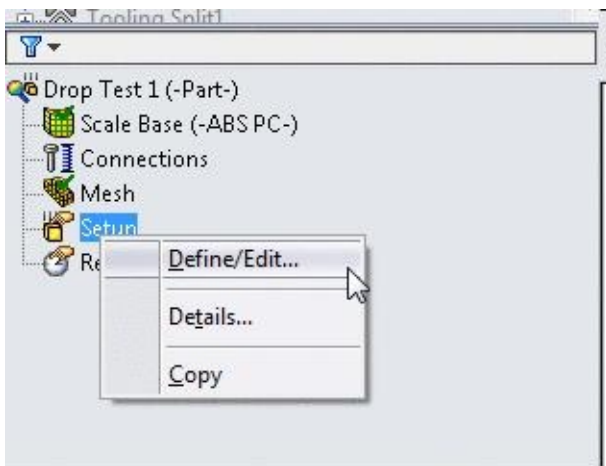

Figure-7. Setup shortcut menu
- Right-click on the **Setup** node from the **Analysis Manager**. A shortcut menu will be displayed; refer to Figure-7.